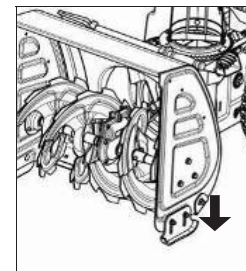

Fig. 24B
- On uneven ground, e.g. gravel paths, the shoes should be adjusted about 30mm (the auger to the ground). (Fig. 24B)